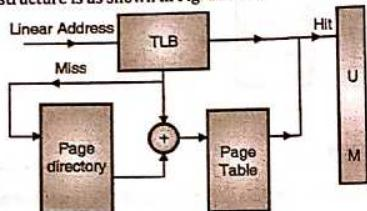

Fig. 12.6.11 :Translational lookaside buffer implementation.
- TLB is implemented in the 80386 processor whose structure is as shown in Fig. 12.6.11.